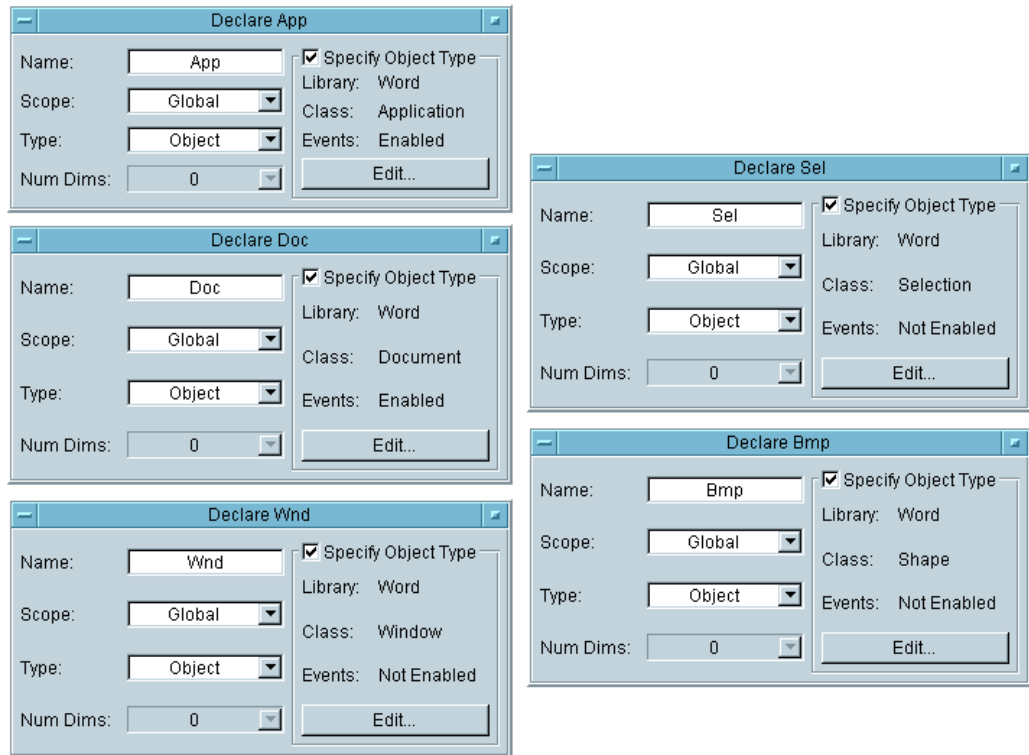

Figure 6-14. Object Variables
- e. Select `Enable Events` where the class permits it. Iconize these five icons. See Figure 6-14 for the open view of these variables.